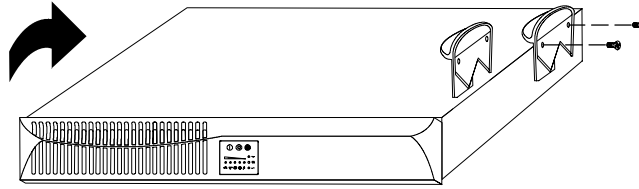

Figure 4. Installing UPS Pedestals
3. Place the UPS cabinet upside down so that the right end of the unit is accessible (see Figure 4).